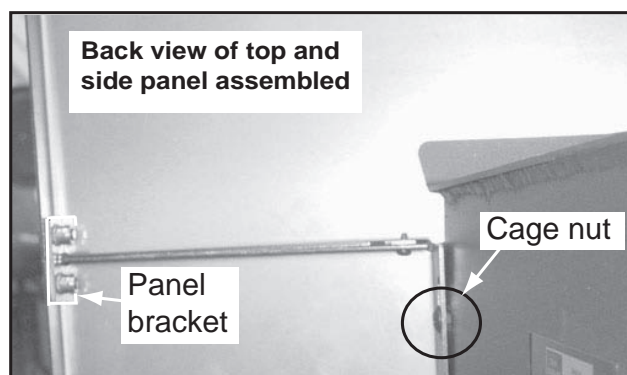

Figure 21.3
- a. Loosely install the 2 side panels, do not tighten, using the cage nuts already attached to the appliance. (Note: The sides are not interchangeable). **Figure 21.3.**